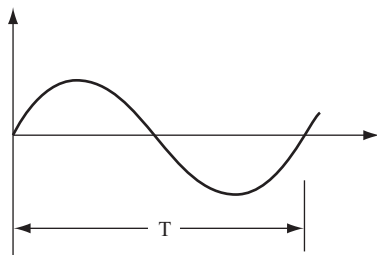

FIGURE 5.4
**7** There is a primary time measurement for sine waves. The duration of the complete sine wave is shown in Figure 5.4 and referred to as a *cycle*. All other time measurements are fractions or multiples of a cycle.